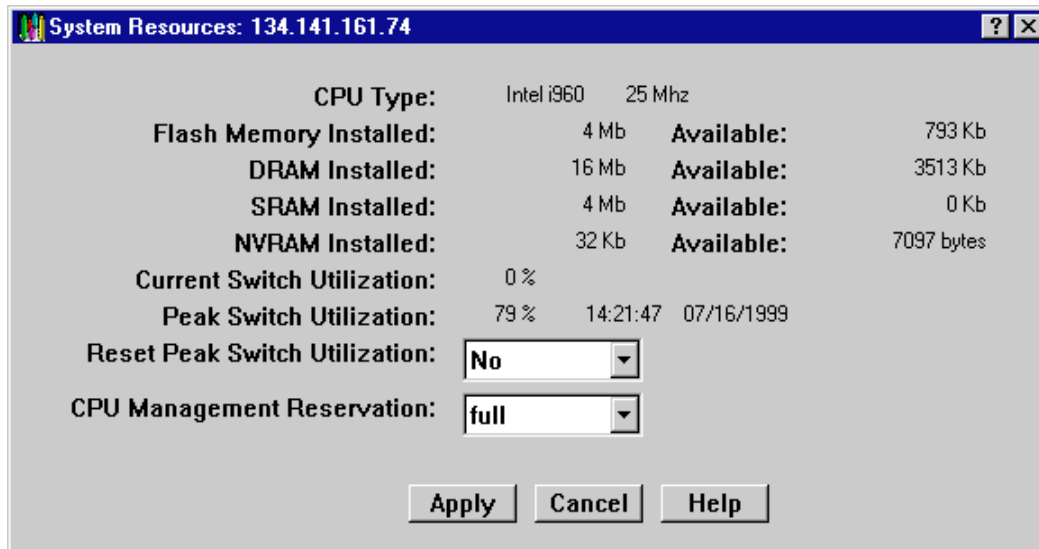

Figure 2-25. The System Resources Window
2. Select **System Resources**. The System Resources window, Figure 2-25, opens.